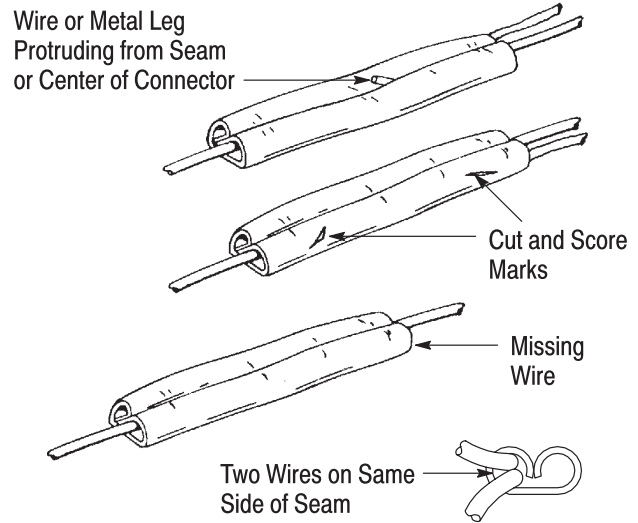

Figure 6
4.2. Visual Inspection (See Figure 6)